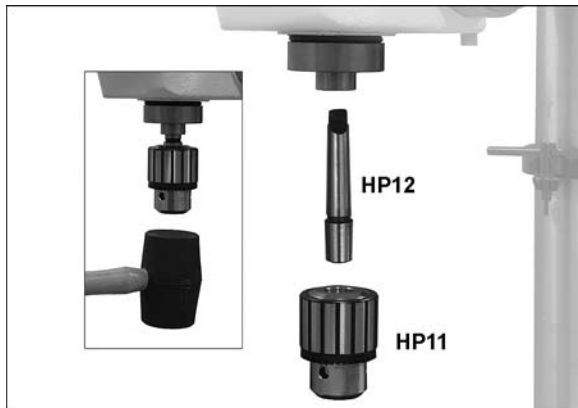

Figure 12
18. Thoroughly clean spindle, arbor and chuck (Figure 12) with a soft rag and solvent, such as mineral spirits.